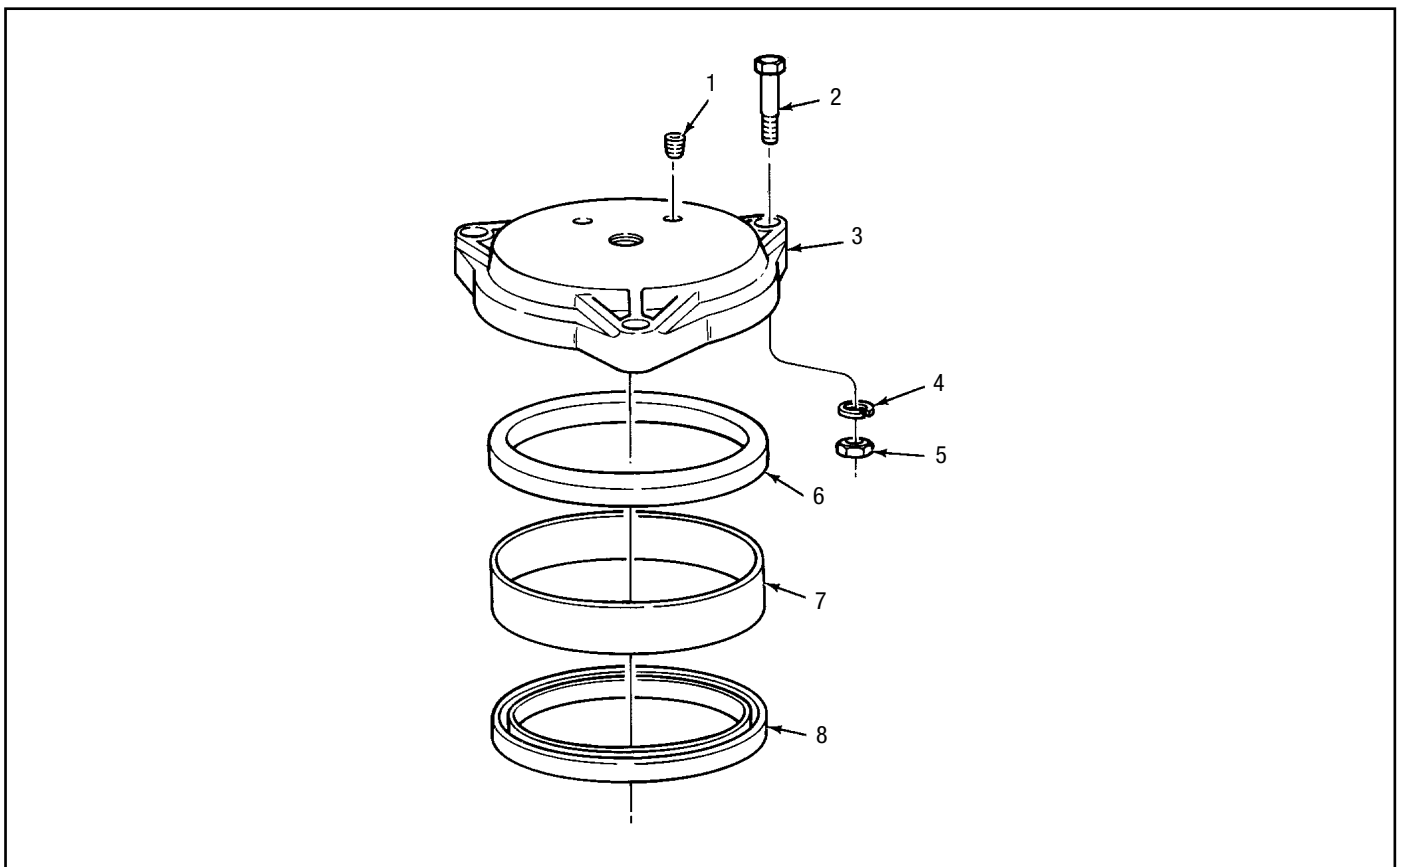

Figure 2-4. Overhead Supply Adaptor Assembly - Exploded View
2.5.1 General. Maintenance tips and disassembly and assembly procedures for overhead supply adaptors are discussed in Paragraphs 2.5.2, 2.5.3 and 2.5.4. An exploded view of the adaptor is shown in Figure 2-4 and should be referred to during the discussion.
- a. Visually check for oil-leakage between the adaptor tube (7, Figure 2-4) and the pump. Leakage may indicate that the gasket (6) is defective or that nuts (5) are not tight. Torque nuts to 5 ft-lbs. If leakage continues replace gasket (6). Leakage may also be caused by exceeding recommended inlet pressure of 15 psi.
- b. Check for cracks and nicks on reservoir tube (7). Replace tube as required.
2.5.3 Disassembly of Overhead Supply Adaptor. Figure 2-4 illustrates the adaptor but does not include other LUBEMASTER components which may be mounted to the adaptor. Disassembly of the adaptor may require that some of these components be removed. Blowout switches may or may not require removal, depending on the level of disassembly required. The electrical connections to the switches should be disconnected in order to remove various parts without restriction of movement by the electrical cord. Removal of these components is explained in other sections of the manual. Refer to the table of contents to find where the components are discussed.
2.5.5 Overhead Supply Adaptor Parts Lists. Table 2-5 identifies the parts indexed in Figure 2-4.
TABLE 2-5 OVERHEAD SUPPLY ADAPTOR ASSEMBLY (FIGURE 2-4) PARTS LIST